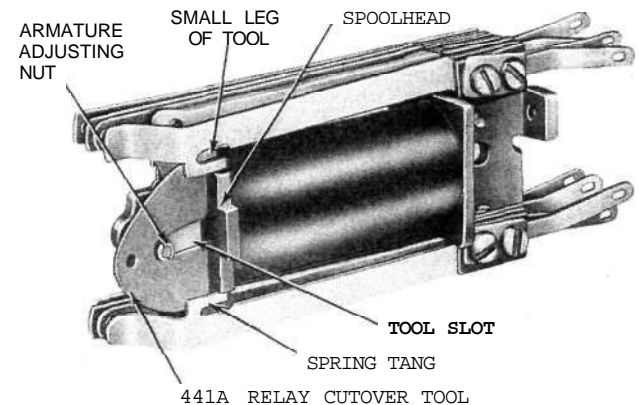

Fig. 37—Blocking R1886 Relay for Cutover Purposes
4.03 R1886 Relays: Fig. 37—Using the 441A
Cut the strip of KS-7187 paper to the required size. Fold the paper and insert it between the contacts, as shown for typical relays in Fig. 37 through 43. When insulating normally closed contacts, manually operate the relay before inserting the paper.